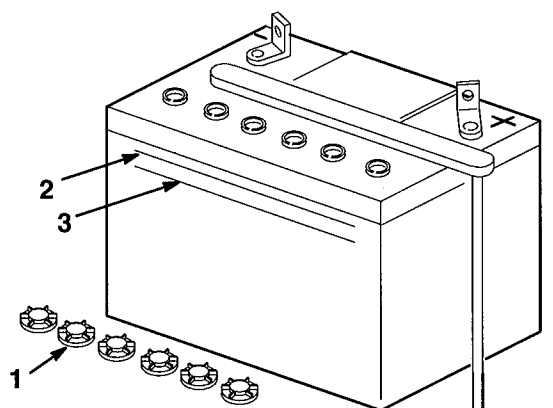

Figure 20
2. Look at the side of the battery. The electrolyte must be up to the "UPPER" line (Fig. 20). Do not allow the electrolyte to get below the "LOWER" line (Fig. 20).
2. Unscrew the filler caps (Fig. 20).
3. Slowly pour distilled water into each battery cell until the level is up to the "UPPER" line (Fig. 20) on the battery case.